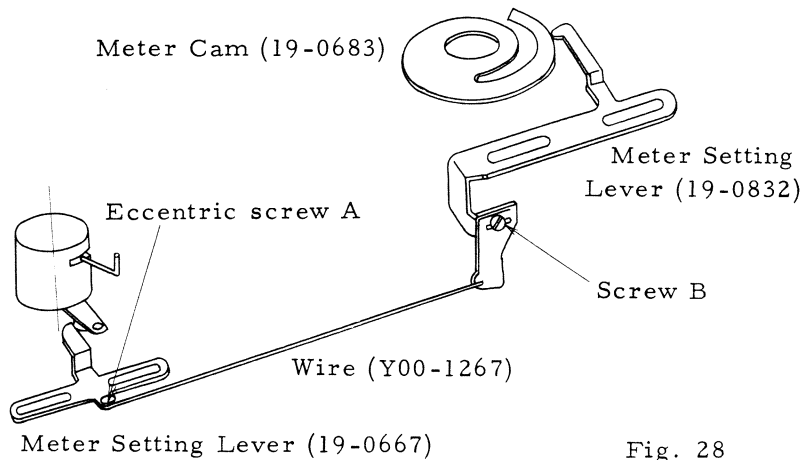
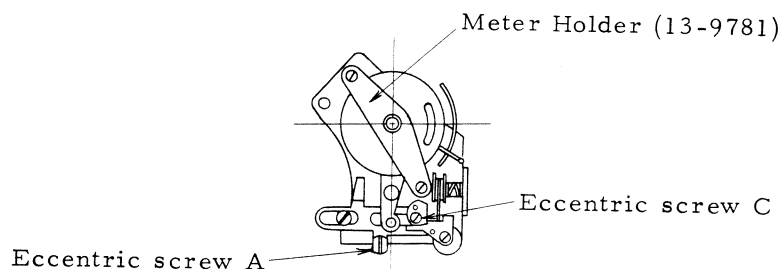

Fig. 28
Fig. 29
2) Set the eccentric screw A (Fig. 28) to its position.
3) At ASA 100 1/125 sec, the inscribed line of Meter Holder (13-9781) coincides with that of Meter Cover. In this case, the lever of Meter becomes perpendicular. See Fig. 29. Make adjustment by turning the screw B. See Fig. 28.
- 2) The Meter needle must align at the center of the Following Needle at the specified brightness. See Fig. 30. Make adjustment with the eccentric screw A (Fig. 29).
Adjust it with eccentric screw C (Fig. 29).